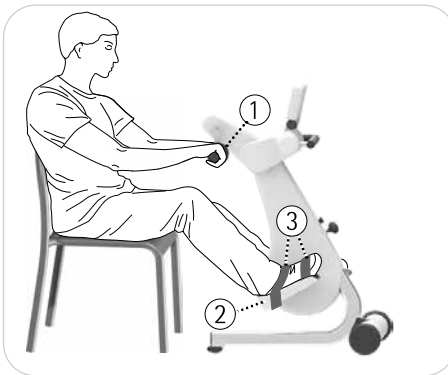

Fig. 5.21
see Fig. 5.21, 5.22 Now fix your feet with the fastening straps ③.